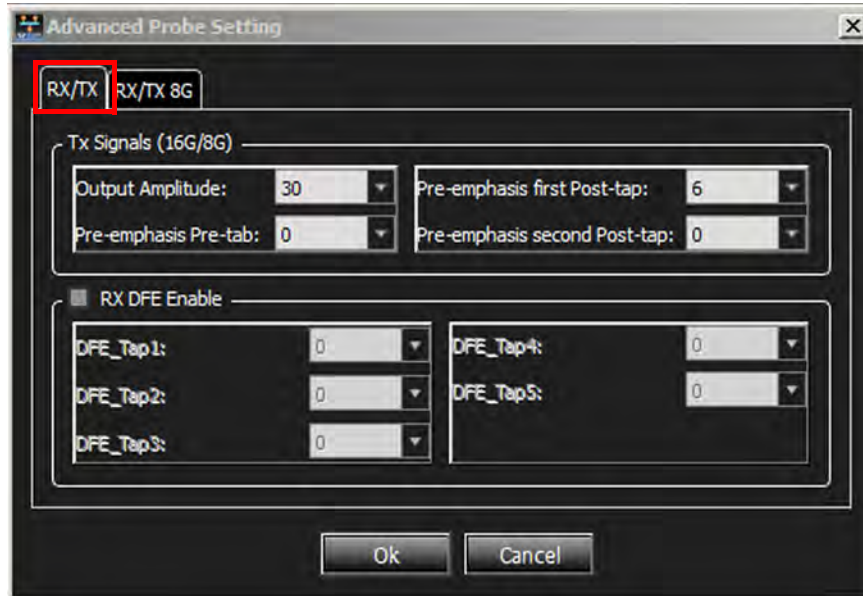
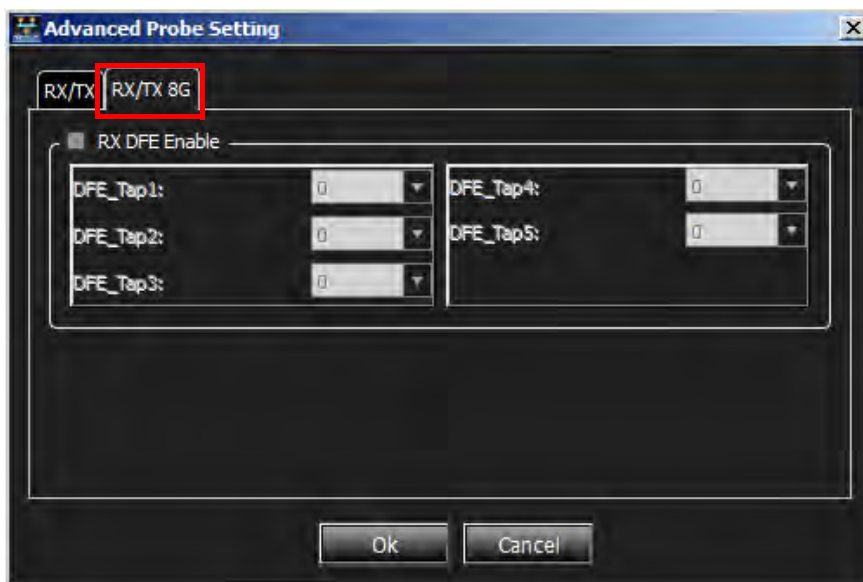

Figure 4.27: Advanced Probe Setting Window for FC Device – RX/TX
Figure 4.28: Advanced Probe Setting Window for FC Device – RX/TX 8G
- Advanced: Displays the Advanced Probe Setting window with the RX/TX tab selected (Figure 4.27). Enter the desired values for each of the parameters. Select the RX/TX 8G tab (see Figure 4.28) and enter the desired values for each of the parameters.